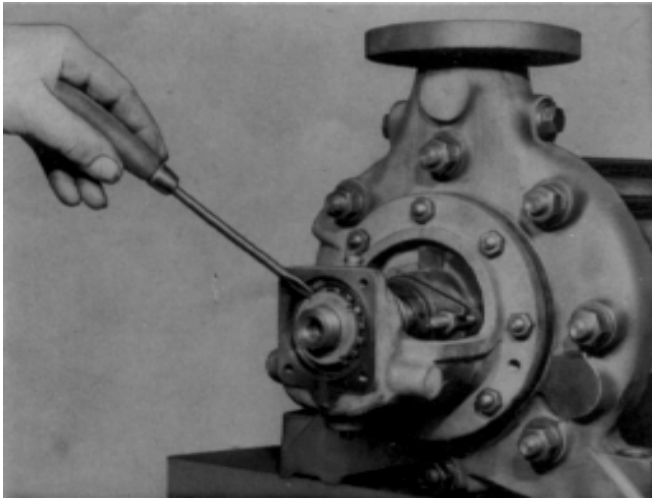

Fig. 60 Bending down the tabs on the lock washer.
16. Bend down the tabs on the lock washer. (see Fig. 60)